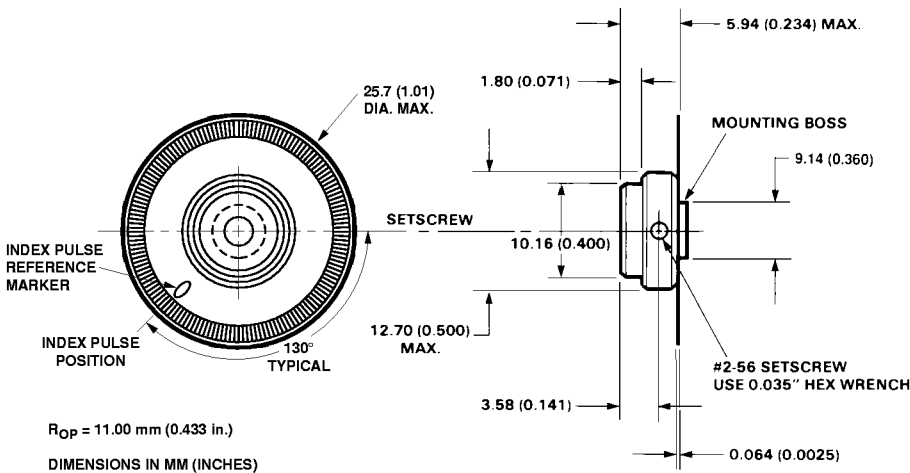

Figure 7. HEDS-5140 Codewheel Used with HEDS-9140.
*Index will not work if wrong orientation is used. Hub side of codewheel must point away from mounting surface. See Figure 7.